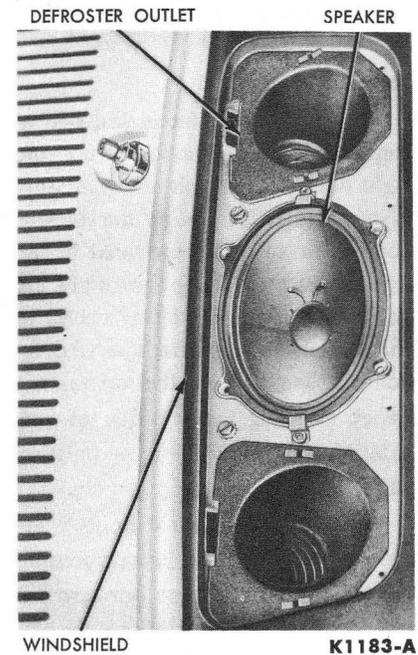

FIG. 6—Radio Speaker Mounting
3. Remove the speaker retaining screws and lift the speaker from the instrument panel (Fig. 6).